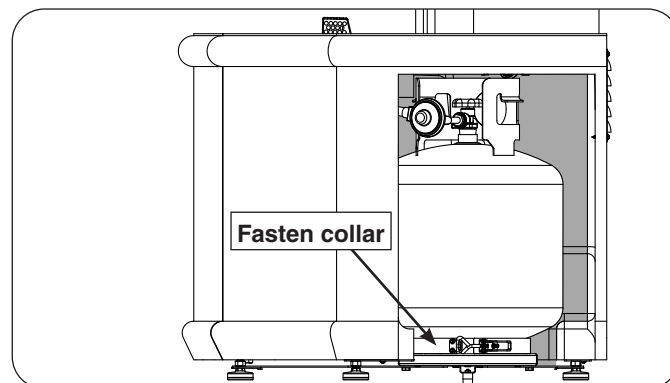
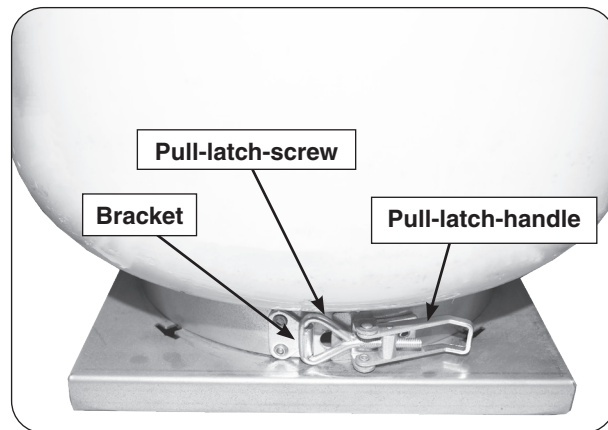

Fig. 26-3 L.P. Cylinder placement
Fig. 26-4 Secure L.P. cylinder
2. The propane cylinder (not included) is to be located inside the base of the unit, via the storage door opening. Insert the cylinder into the tank holder tray and secure it. See Fig. 26-3, Fig. 26-4, and the details below: